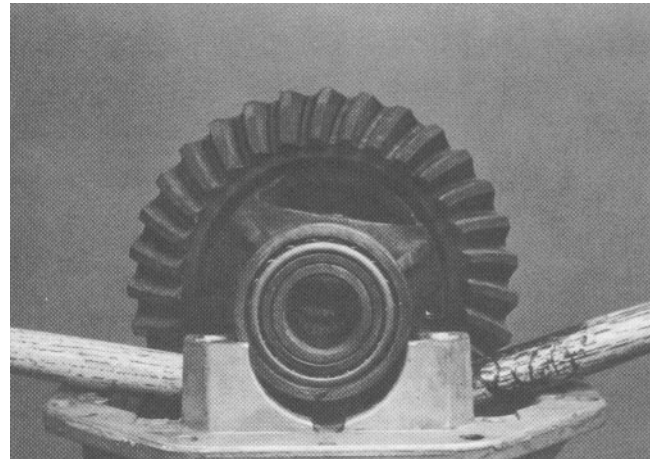

Figure 21
3. To remove the differential assembly, place two wooden devices (i.e. hammer handles) under the differential case and pry firmly upward. The bearing cups must be kept with their mating cones (Fig. 21).